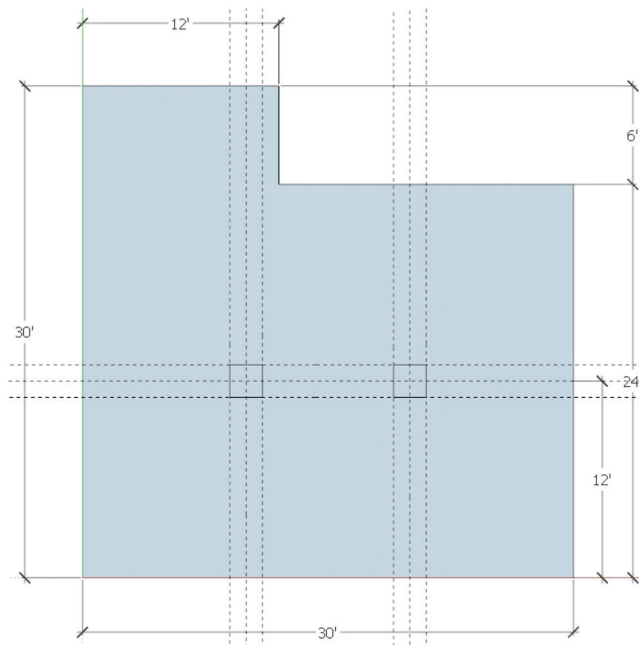

Figure 10.21 Piers.
12. Next, draw a rectangle to represent each pier footing (24" × 24"). Press R for rectangle and, using the guides, draw a rectangle for each pier footing as shown in Figure 10.21 (*Note:* After you draw the rectangle, hit the spacebar to return to Select mode.)